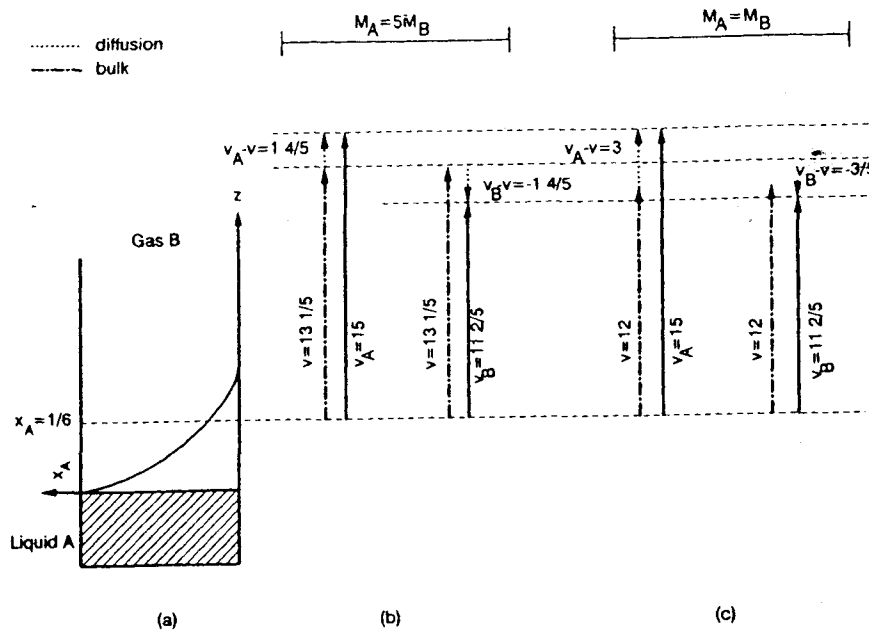

Figure 1 - (a) Long tube for diffusion experiment. (b) Velocity vectors for the case of $M_A/M_B = 5$. (c) Velocity vectors for the case of $M_A/M_B = 1$.
1. Consider a long tube that contains liquid A and vapor B (Figure 1). The liquid starts evaporating, and it moves in the region initially filled with B. Calculate the velocity vectors v and v_B , for $x_A = 1/6$, $v^* = 12$, $v_A = 15$, and $M_A = 5 M_B$. How do v and v_B change if $M_A = M_B$?